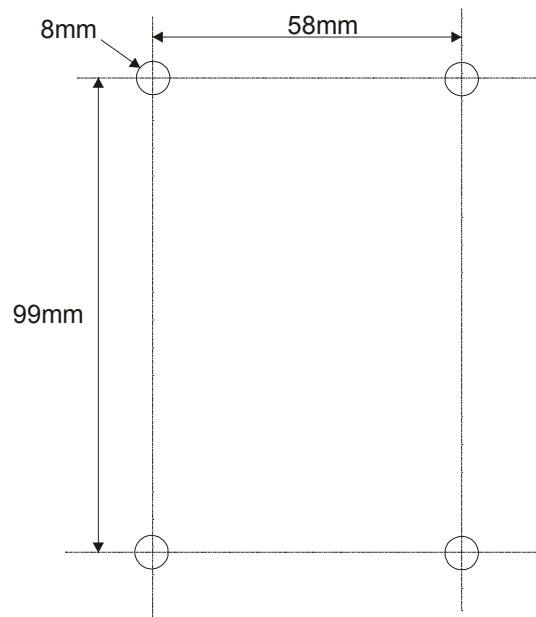

Figure 4-14: BSR mounting bracket dimensions for the four fixing holes
2. Attach the mounting bracket to the wall using four screws. The fixing dimensions for the mounting bracket is illustrated in Figure 4-14